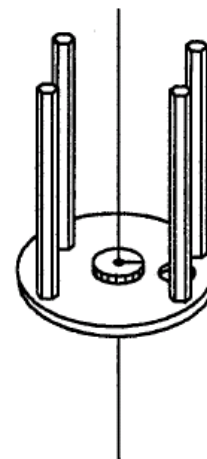

Fig. 11
- The centring of the ring is factory-adjusted. If a new setting is required, the following steps must be followed (Fig. 11):